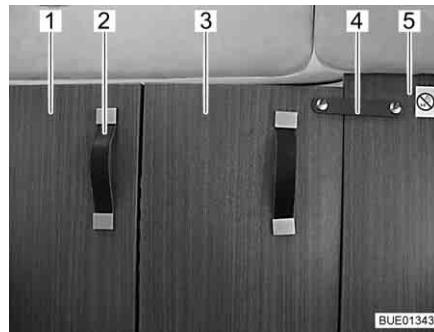

Fig. 57 Driver's cabin partition, closed
- Pull the driver's cabin partition (Fig. 57,1) completely inwards using the handle (Fig. 57,2).
- Using the securing strap (Fig. 57,4), secure the folding section of the driver's cabin partition (Fig. 57,3) to the fixed partition wall (Fig. 57,5) behind the front passenger seat.